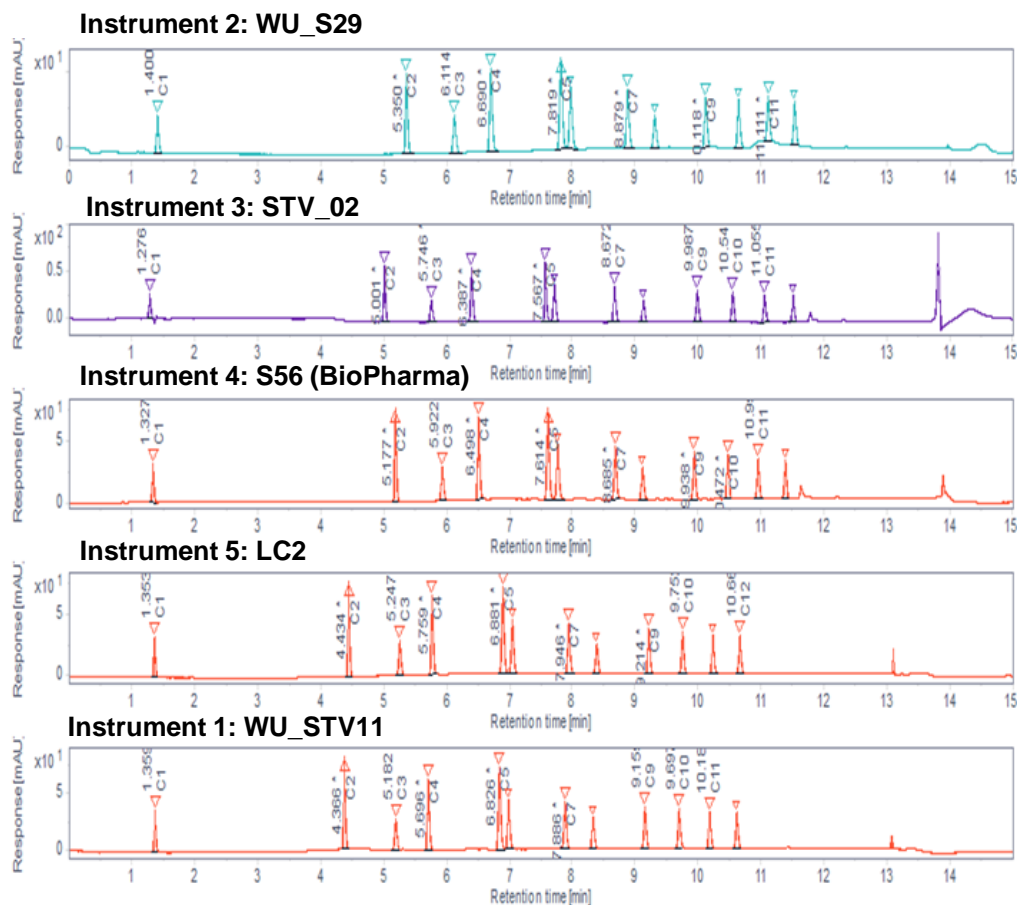

Figure 3: HPLC chromatogram of 15 minute CSH method collected on instruments 1 to 5.
- As shown in Figure 3, the data collected on instrument 1 is comparable to instruments 2-5.